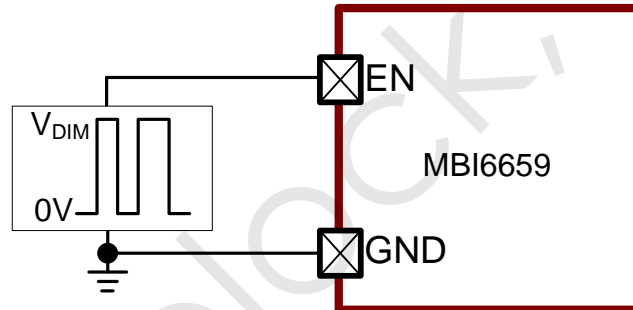

Figure 7. The sketch of digital dimming by PWM signal
MBI6659 also features digital dimming function, which can be adjusted by a PWM signal at EN pin, as Fig. 7 shows. The output LED current will increase with the increasing DPWM. The high level of VDIM must be larger than 2V to obtain correct dimming current. The dimming range of PWM signal controlled is recommended from 5% to 100%. For dimming linearity, the recommend range of PWM frequency is from 100Hz to 1kHz. The output current is described as Equation (1),